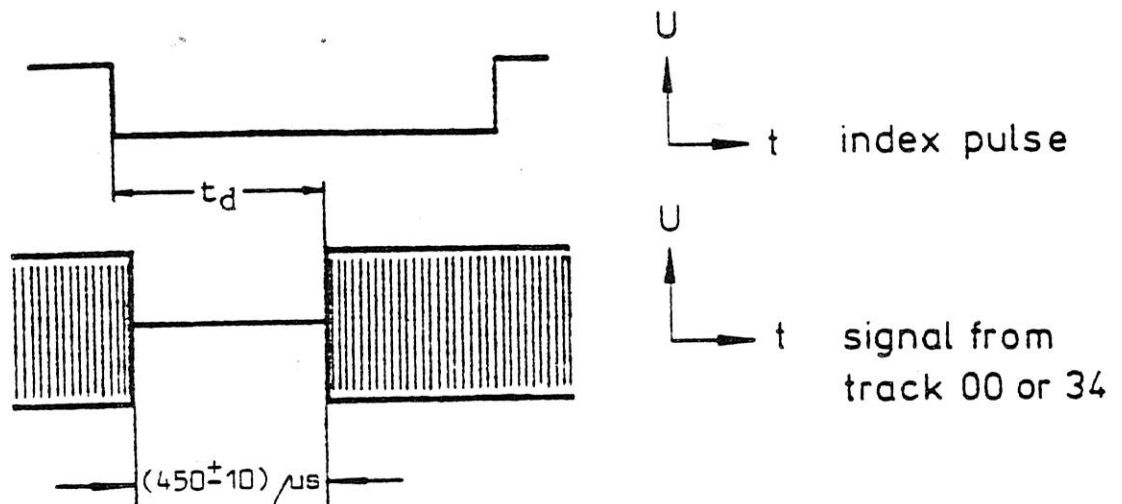

Fig. 8
7. adjust the phototransistor assembly to obtain the time relationship of fig. 8. t_d is defined in the drive manufacturer's literature.